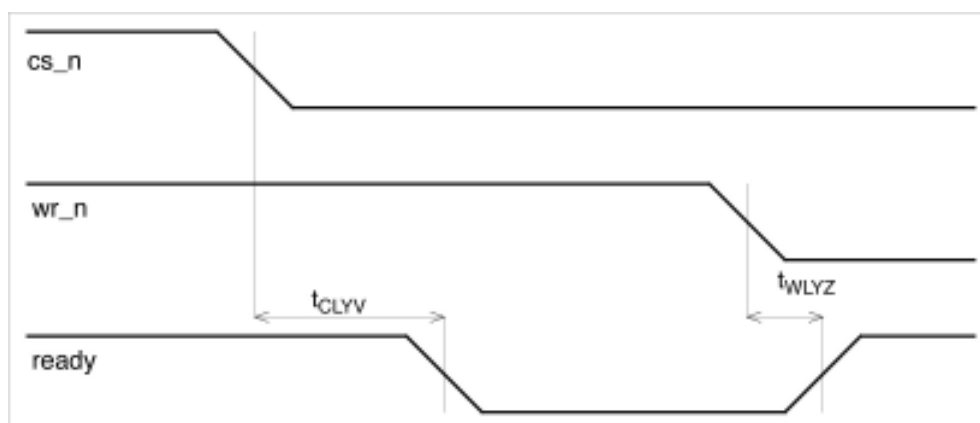

Figure 9. Mode 0 and Mode 1 ready Timing for Write Cycle with No Write Pending
- Mode 0 and Mode 1 **ready** Timing for Write Cycle with No Write Pending (Table 8/Figure 9)